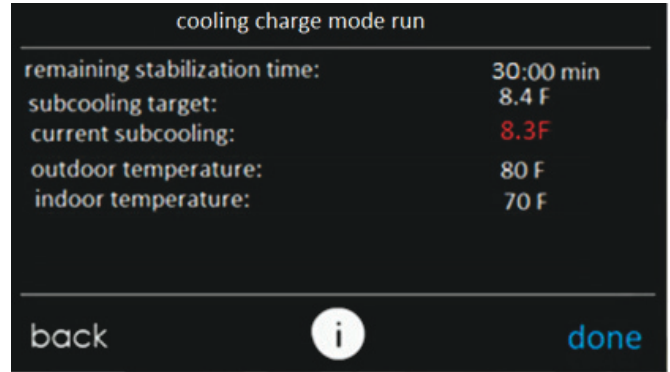

Fig. 19 – Cooling Charge Mode Run Screen A240375
- Once start has been pressed, the next screen will show the target subcooling that should be attained while charging. If subcooling mode is not available, the current subcooling and target will display as dashes and the refrigerant must be weighed in. Weigh in the charge amount recorded in Step 7. The charge level may then be checked at another time when both the indoor and outdoor temperatures are in a more favorable range that allow for subcooling charging. When subcooling is available, the current subcooling will appear in red (Fig. 19) until the stabilization timer is 0 where it will then turn green, indicating the system has stabilized. “Current subcooling” is calculated using sensors inside the ODU, but may be in error until stabilization time has completed. Compare the “current subcooling” to the “subcooling target” listed on the charging screen. Add refrigerant if the subcooling is low and remove refrigerant if